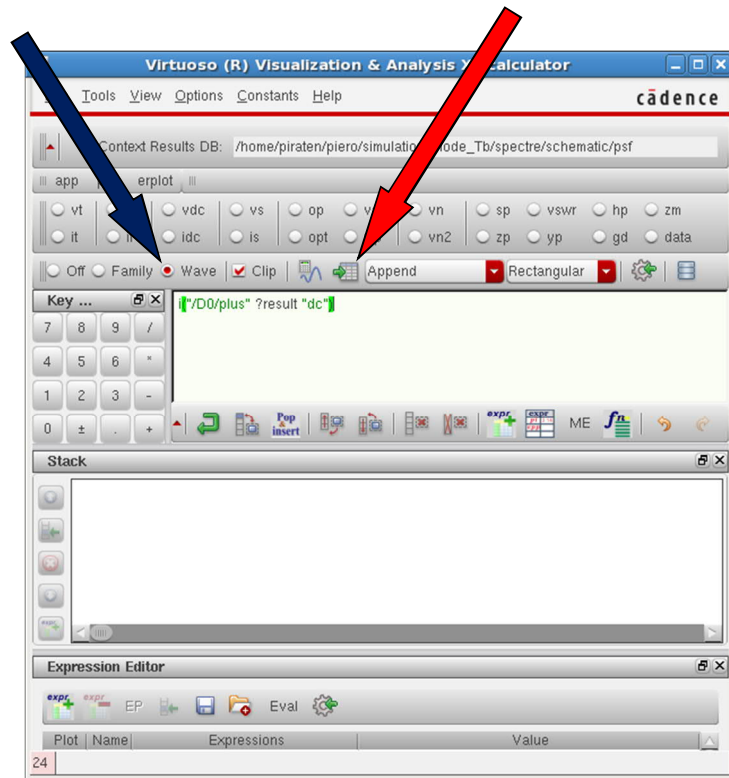

Figure 11. The **Calculator** window.
- g. Referring to Figure 11: Select the **wave** field and thereafter click on the diode current waveform in the **Visualization** window to import it into the Calculator; click on the field indicated in Figure 11 (red arrow on the right) to create a look-up table with the values of the diode current vs. the input voltage. The result of this operation is shown in Figure 12.